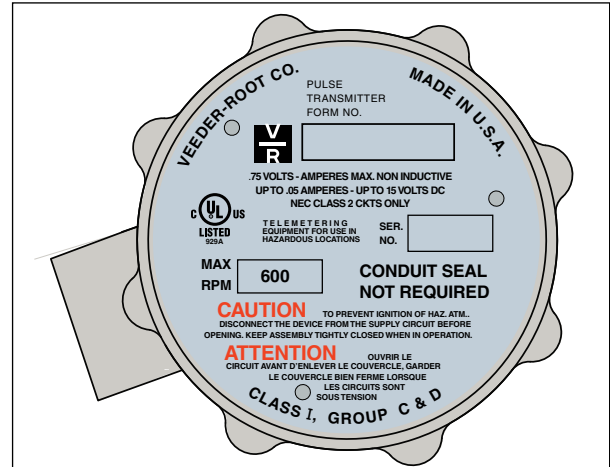

Figure 1. Series 7671 Pulse Transmitter
These instructions are for installation of the Series 7671 Solid State Pulse Transmitter (see Figure 1) designed and manufactured by Veeder-root Company, 2709 Route 764, Duncansville, PA 16635, (814) 695-4476.